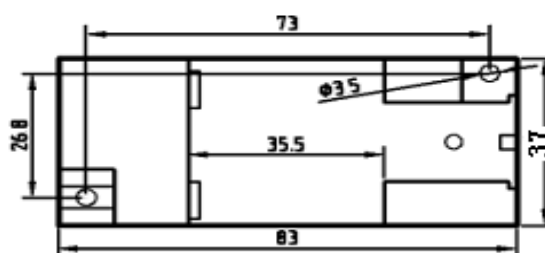

Figure 3, Installation Dimensional Drawing
DIN35 rail mounting or screw mounting, the installation size shown in Figure 3 (in mm)
①3 mm diameter hole in the fixed plate according to the screw hole position shown in Fig. 3;
② Use the screw smaller than  $\Phi 3$  to insert into hole to secure it.